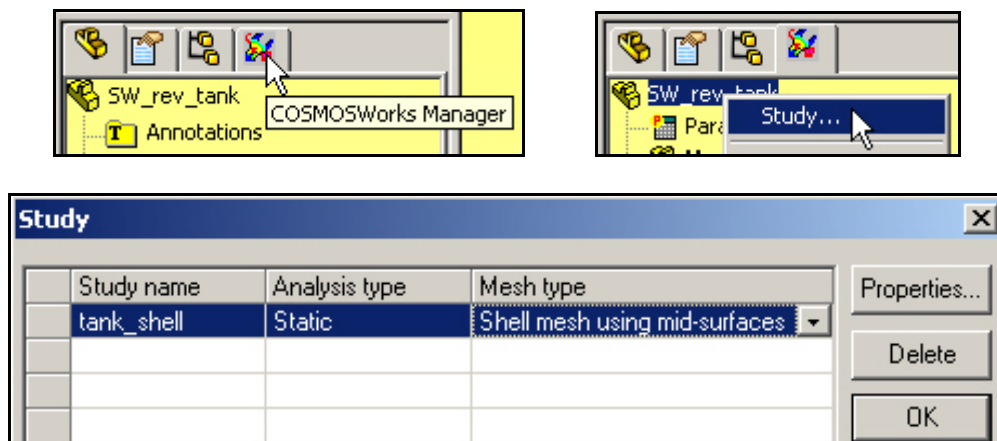

Figure 11 Entering CosmosWorks static shell analysis
3. Define the **Mesh type** to be mid-surface shells, as in Figure 11.